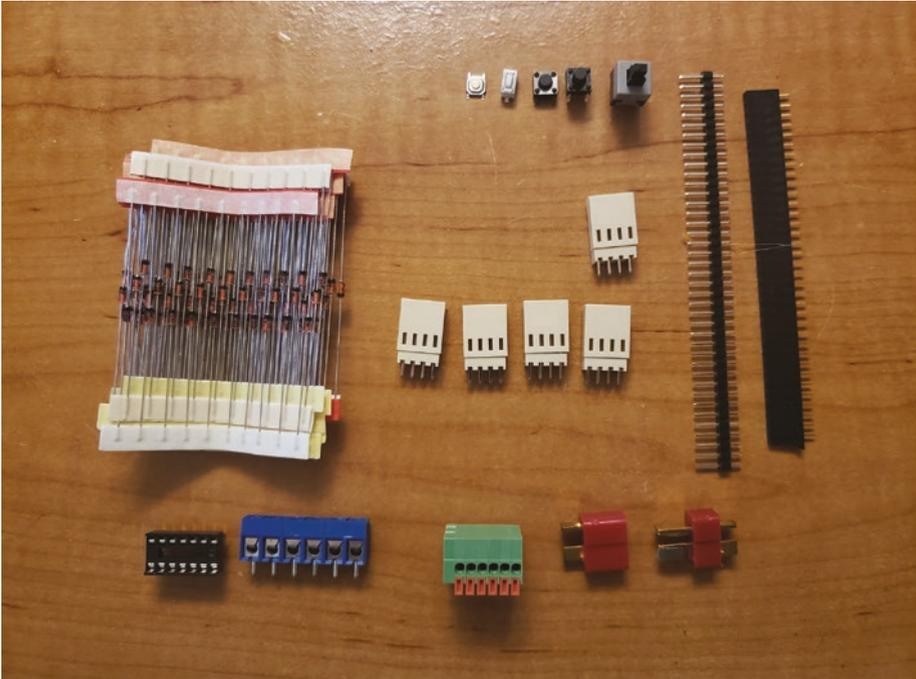

Figure 1-7. Miscellaneous pieces of hardware (various terminal blocks/connectors, diodes, headers, push buttons)
- **Miscellaneous:** These are the most common components, such as resistors, capacitors, LEDs, diodes, headers, push buttons, and transistors. You can buy many kits that will supply you for a while on all this hardware at a low cost (see Figure 1-7).